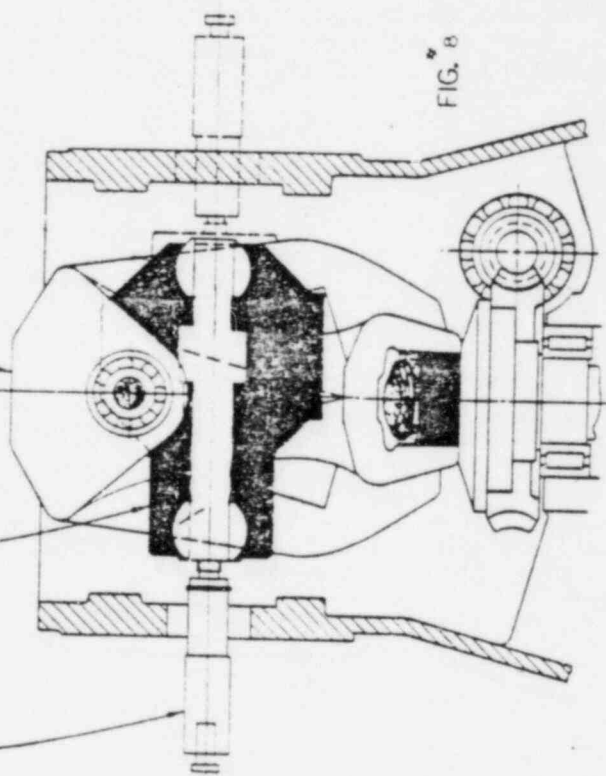

FIG. 8
6. The loosely assembled hanger bracket-crosshead assembly shall be picked up by hand and installed in the drive case as shown in Fig. 8. The hanger bracket shall be gently maneuvered until the sliding block engages the hanger bracket slot as shown in Fig. 8.